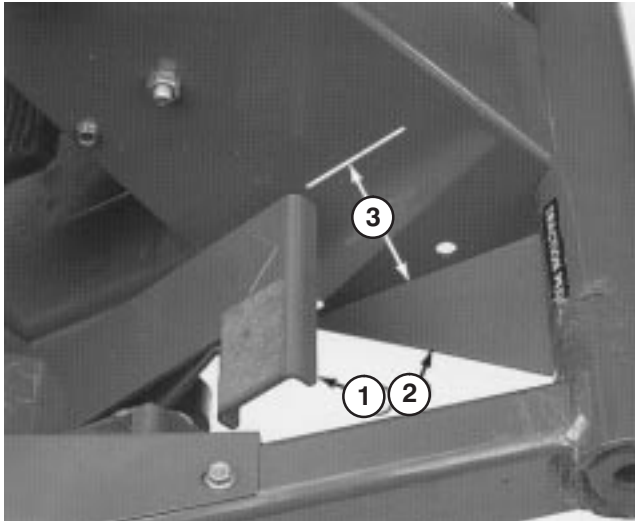
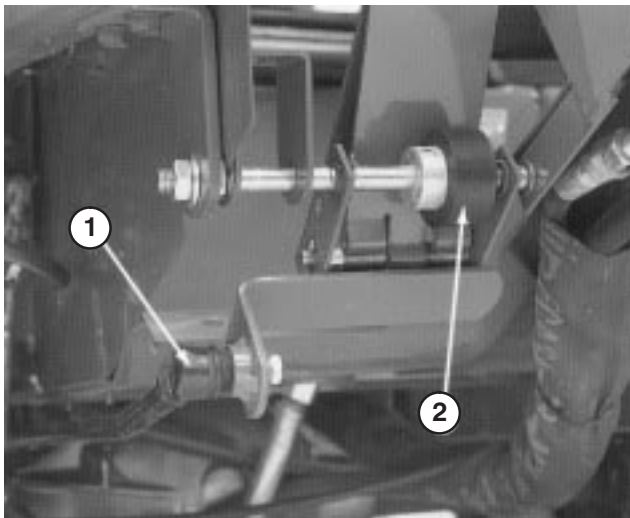

Figure 49
Figure 50
2. Press down on front of traction pedal and check travel. There should be approximately 3.50" clearance between end of pedal and floor plate when pedal in fully depressed (Fig. 49). Adjust pump control rod (Fig. 50) to attain dimension.
1. Loosen nut securing traction pedal shaft on right side of pedal (Fig. 50).